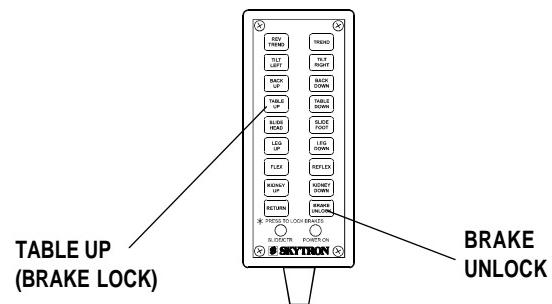

**Figure 2-2. Pendant Control Unit**
The hand-held pendant control unit (figure 2-2) activates the following table functions:
a. Make sure the green, AC 120V, Power-On indicator light, on the hand-held pendant control, is OFF. See figure 2-2. If the indicator light is ON, depress the main power ON/OFF switch, located on the electrical enclosure to turn AC120V operation OFF.